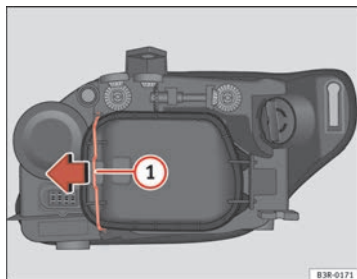

Fig. 194 Dipped beam headlights
Although it is not necessary, previously remove the rigid cover ⇒ page 265, fig. 194 for easier turn signal bulb changes. ■
- Move the brace ⇒ fig. 194 ① in the direction of the arrow and remove the rigid cover, separating the brace side and then removing the two tabs from the other end of the cover.